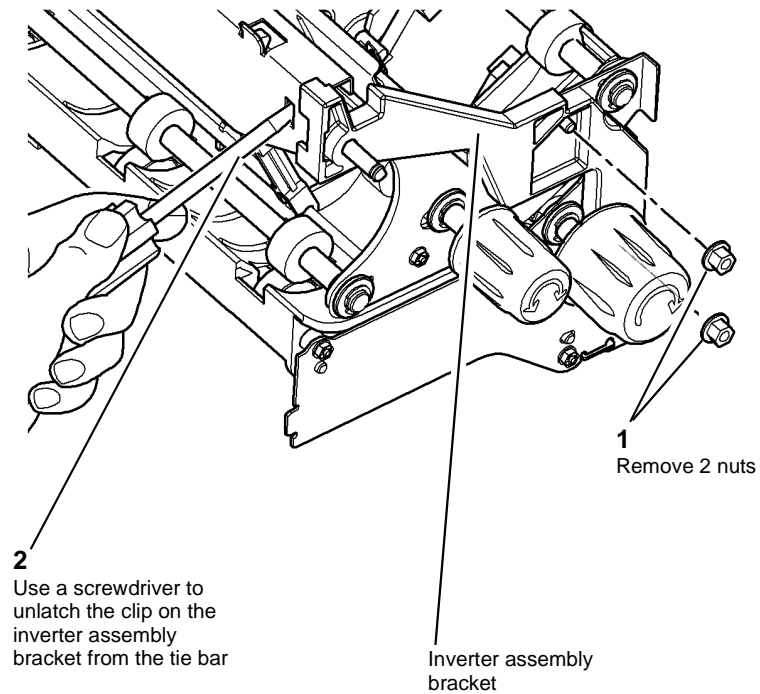

Figure 2 Inverter assembly bracket
- Carefully unlatch the inverter assembly bracket from the inverter assembly, Figure 2.